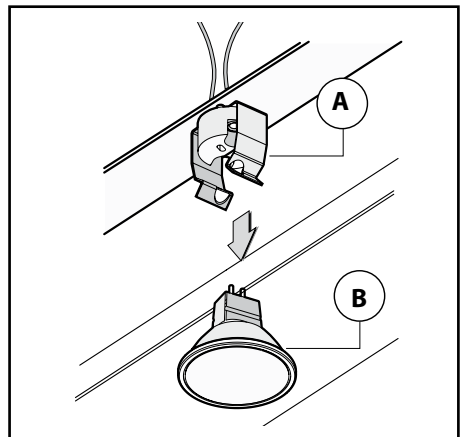

Fig.9
- To replace the halogen lamps **B**, from the inside of the cooker hood press downwards with two fingers as shown in **Fig.9**.